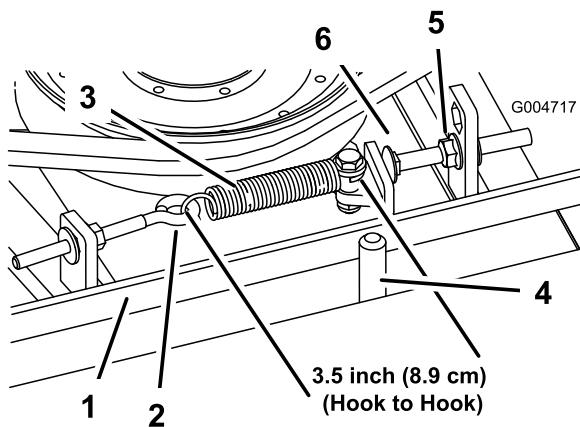

Figure 70
When properly tensioned, the extension spring (hook to hook) measurement should be approximately 3.50 ±.25 inch (inside). Once the correct spring tension is attained, adjust the stop bolt (carriage bolt) until there is approximately .125 +.060/-.000 inch clearance between the head of the bolt and the idler arm (Figure 70).
Note: Make sure the belt is positioned on the spring side of the belt guide (Figure 70).
2. Loosen the eye bolt allowing the removal of the extension spring (Figure 70).
3. Loosen the flange nut securing the stop bolt to the mounting tab. Back off the nut enough to allow the idler arm to pass by the stop bolt (Figure 70). Move the idler pulley away from the belt to release belt tension.
8. Reconnect the extension spring (Figure 70) to the eye bolt and tension the belt as follows: